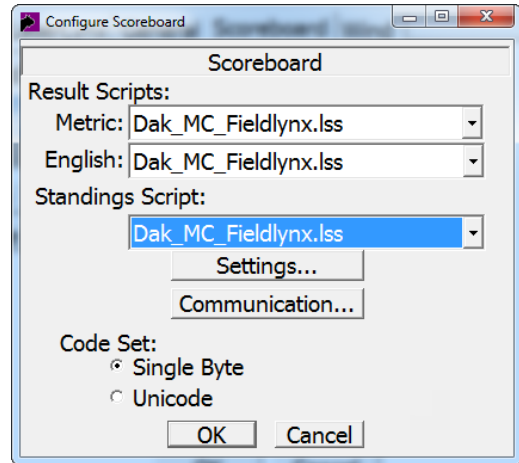

Figure 75: Configure Scoreboard
4. Click **Configure**. In the *Configure Scoreboard* window, select the correct script files as shown below and in **Figure 75**: